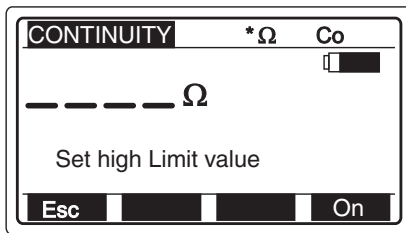

Figure 14: Limit Value Setting Menu
- ▶ For the setting of the limit value first press function key F2 (Lim) to enter the limit value setting menu, please refer to Figure 14.